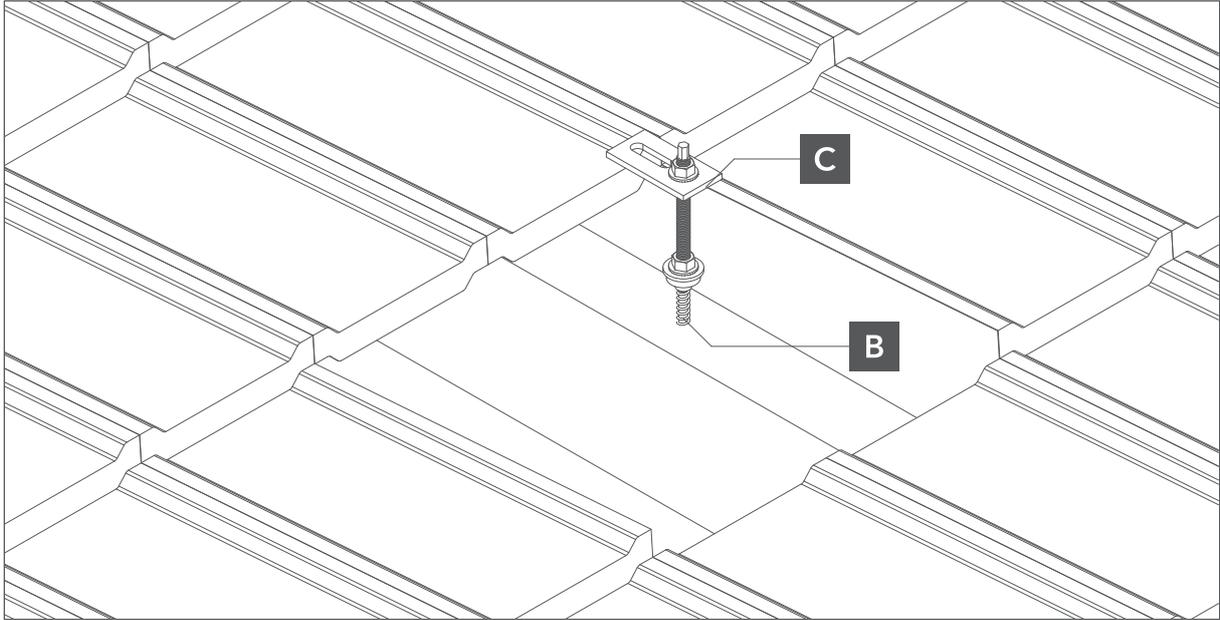

Fig. 4. attachment of the double threaded screw to the roof beams.
- 3** After tightening the screw with double spindle and the mounting adapter, they should be attached to the rafters (Fig. 4).